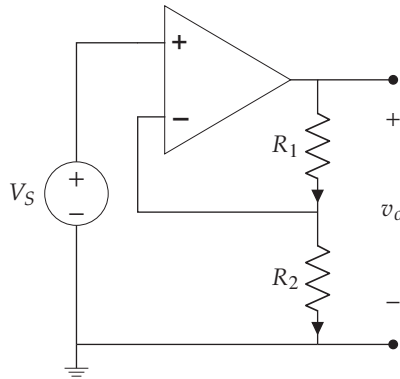

Figure 4.25. An opamp circuit.
**Problem 4.8**  **CHAIR** Consider the opamp circuit of figure 4.25, which will be used to drive a PMDC motor. The input can supply a variable  $V_S \in [0, 10]$  V, the motor has constant  $K_a = 0.05$  V/(rad/s) and coil resistance  $R_m = 1$   $\Omega$ , and the opamp has differential supplies  $\pm 24$  V. Assume the maximum torque magnitude required from the motor at top speed is  $|T_2| = 0.1$  N-m and ignore any voltage drop in the motor due to the coil inductance.13 Select  $R_1$  and  $R_2$  to demonstrably meet the following *design requirements*: